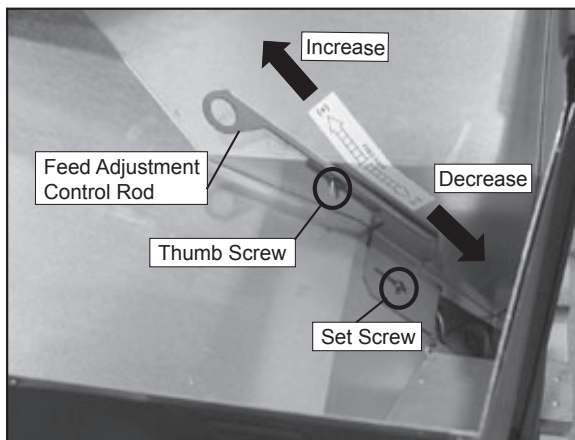

Figure 10.1
1. Loosen the set screw 1/4 to 1/2 turn during set-up of appliance. This will allow movement of the feed adjustment control rod. Do not re-tighten set screw. **Figure 10.1**